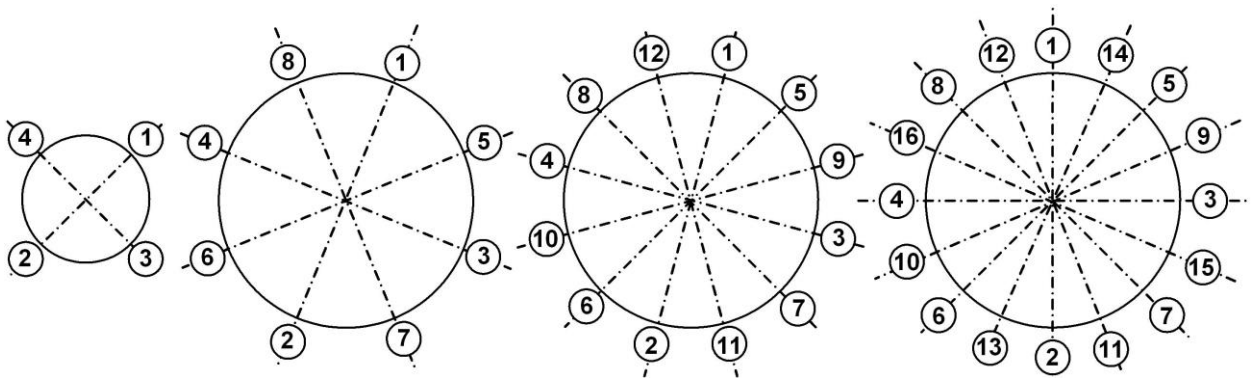

Fig.4. Order of tightening flange nuts
3.2.7.4. When mounting the MF (simulator) into the pipeline tighten nuts in order specified in Fig.4, using a torque indicating wrench with maximum torque value as per Table 2. **Exceeding torque value may cause damage to the flow pipe resulted in leaking of liquid into the inner cavity of the MF.**